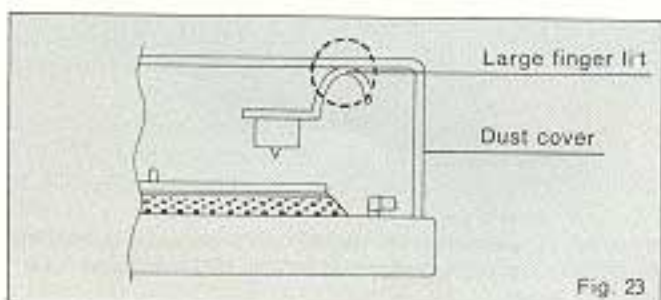

Fig. 23
⑦ When you use other head shells, be careful about the head shell configuration. (See Fig. 23)